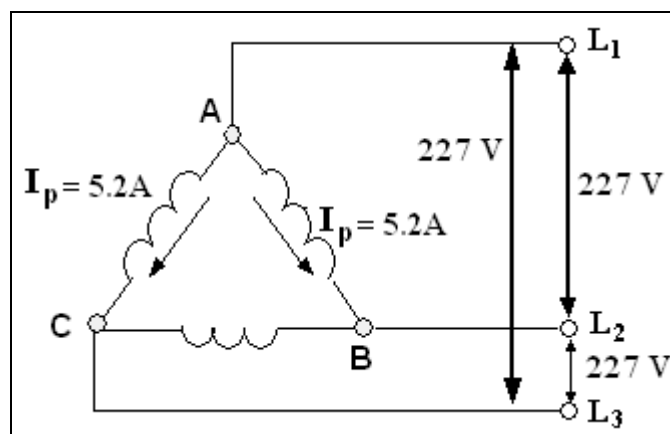

Fig. 2.4-15
5. Calculate the line current for the delta connection shown in Fig. 2.4-15.
6. Determine the phase voltage (V_p) for the delta connection in Fig. 2.4-15.
7. Calculate the line current for the connection in Fig. 2.4-15 when the phase current (I_P) is 20.5 Amps.
8. Calculate the phase current for the connection in Fig. 2.4-15 when the line current is 0.63 Amps.